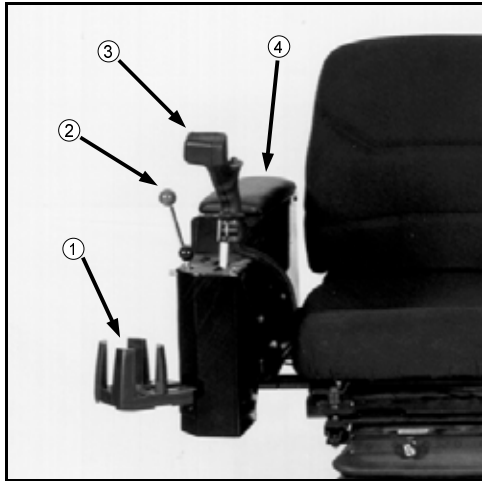

FIG 5.132
The seat-mounted console/armrest houses the hydrostatic drive control lever (with boom lift and level controls and foam system operation switch) (fig. 5.132, item 3), engine throttle lever (fig. 5.132, item 2), operating panel for the hydraulic tread adjust (fig. 5.132, item 4), small storage tray (fig. 5.132, item 4), and adjustable drink holder (fig. 5.132, item 1).